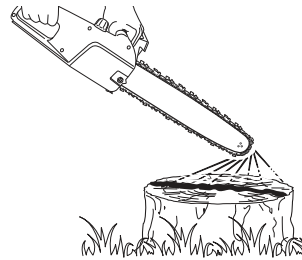

Fig. 21
- > Make sure the guide bar (4) and the saw chain (3) are in place when you check the oil delivery.
- > Start the engine; keep it running at medium power and check if the chain oil is delivered as shown in the figure (Fig. 21).